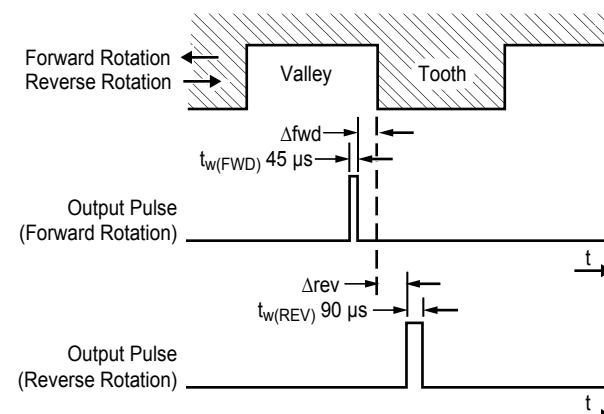

Figure 2. Output pulse timing
**Timing** As shown in figure 2, the pulse appears at the output slightly before the sensed magnetic edge traverses the branded face. For targets in forward rotation, this shift,  $\Delta_{fwd}$ , results in the pulse corresponding to the valley with the sensed mechanical edge, and for targets in reverse rotation, the shift,  $\Delta_{rev}$ , results in the pulse corresponding to the tooth with the sensed edge. The sensed mechanical edge that stimulates output pulses is kept the same for both forward and reverse rotation by using only channel 1 for switching.